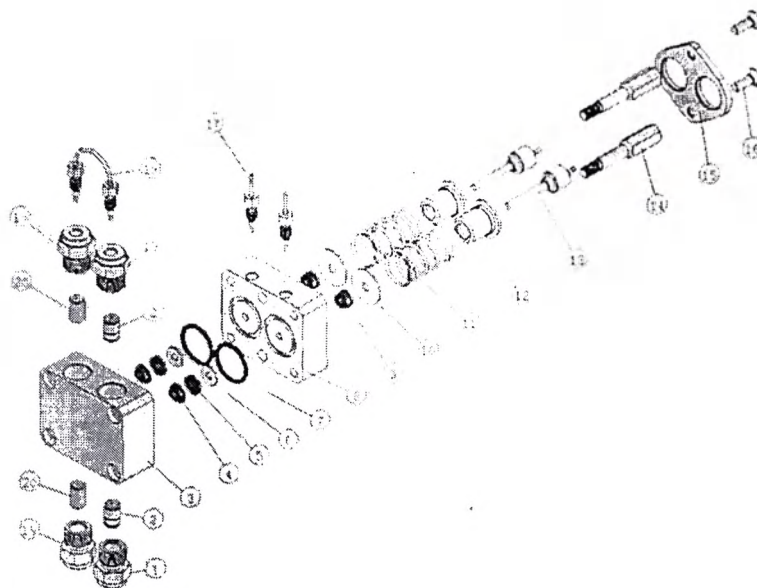

Fig. 4 Explosion view of the pump head
- ✓ Loosen the two retaining plate screws (Item 16, Fig. 4) half a turn, alternating from one to the other to avoid damaging the retaining plate.
Unscrew the two screws strictly alternating, due to strong force of the springs (Item 11, Fig.4). behind the plate.
- ✓ Remove the retaining plate (item 15, Fig.4)
- ✓ Remove the spring guide (item 12, Fig.4) and the springs (Item 11, Fig.4).
- ✓ Use a spanner to loosen and remove the spacing rods (Item 14, Fig. 4). Loosen the rods half a turn, alternating from one to the other.
- ✓ Remove the rear pump head (Item 8, Fig. 4), and take out the gasket (Item 6, Fig.4) and the sealing ring (Item 5, Fig. 4).
- ✓ Insert a piston rod into the high pressure seal (Item 4, Fig.4) and pull it out. Thus, the seal on the piston rod will be easily taken out.
All positions of components refer to Fig. 4 Exposure view of the pump head.
- ✓ After checking and solving the problem with the pump head and cleaning it, put the High pressure seal (Item 4, Fig.4), the Sealing ring (Item 5, Fig.4) and the Gasket (Item 6, Fig.4) back into the front pump head in turn.
- ✓ Assembling the rear pump head. Insert the Piston rod into the rear pump head and front pump head to align them. Screw in the Spacing rod (Item 14, Fig.4). Then take out the Piston rod.
- ✓ Install the Guide for spring (Item 12, Fig.4) and the Spring (Item 11, Fig.4).
- ✓ Install the Retaining plate (Item 15, Fig.4).
- ✓ Insert and tighten the two Retaining plate screws (Item 16, Fig.4) strictly alternating, half a turn at a time, to avoid damaging the Retaining plate.
- ✓ Insert the Piston rods (Item 13, Fig.4) carefully without bending and quenching the rods.